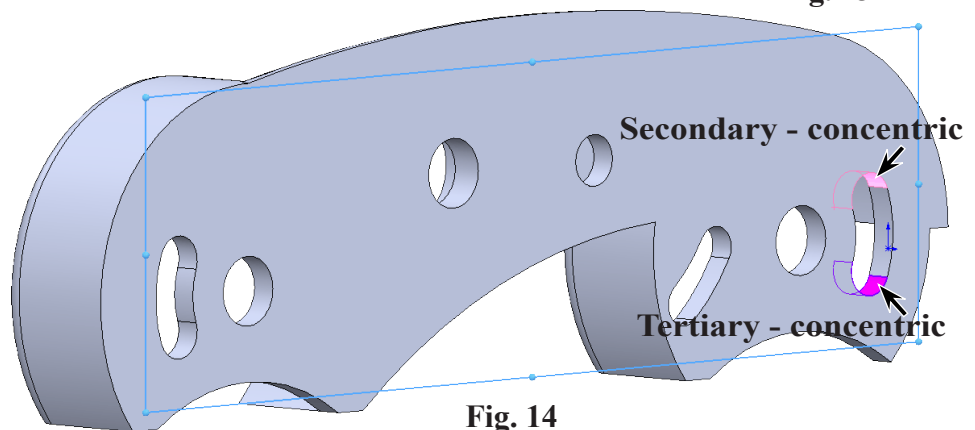

Fig. 14
Step 3. Use **Up Arrow** key **two times** to rotate view slightly, **Fig. 14**.
and click **top curved face of rear Slot cut**, **Fig. 14**